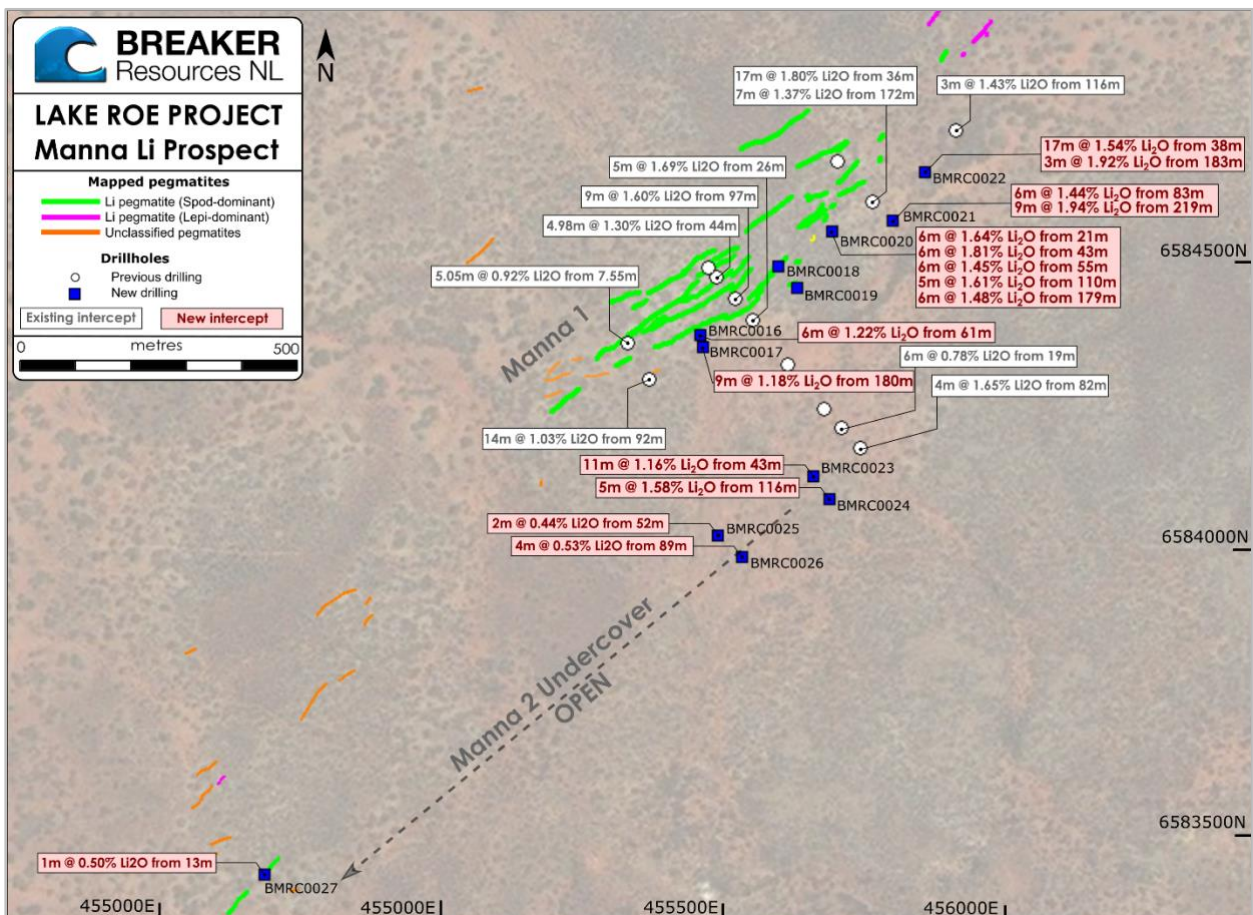
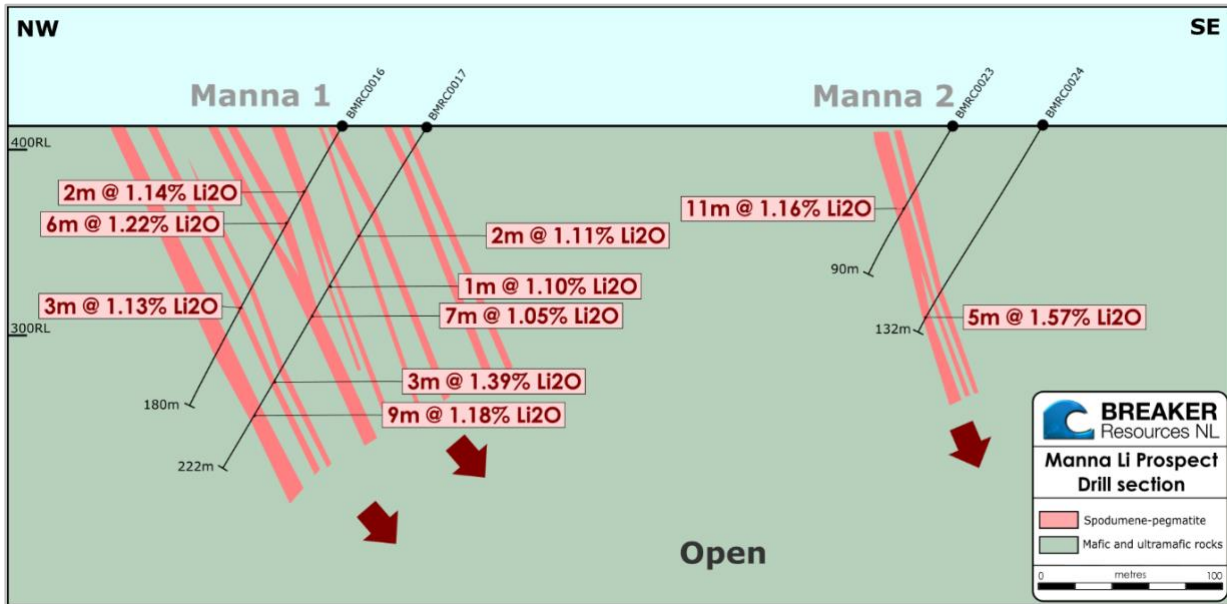

Figure 1: Detailed plan view of drilling at Manna lithium prospect.
Figure 2: Drill section along BMRC0016-BMRC0017- BMRC0023- BMRC0024
- (i) to confirm the continuity of outcropping spodumene-rich pegmatite at Manna 1 (seven holes; BMRC0016 to BMRC0022; Figures 1 and 2); and
- (ii) test anomalous Li-Rb-Sn-Be auger soil results situated on a parallel trend 350m south of Manna 1 (Manna 2, five holes; BMRC0023 to BMRC0027; Figure 1).
The results at Manna 1 are similar in tenor and width to previous drilling (Figure 1), and the stacked nature of the pegmatites dykes over a 130m-wide wide zone with little weathering is in a favourable configuration for open pit mining (Figure 2). Preliminary metallurgical testwork indicates the potential to produce a high grade, low impurity spodumene concentrate using heavy liquid separation (ASX Release 31 October 2019).